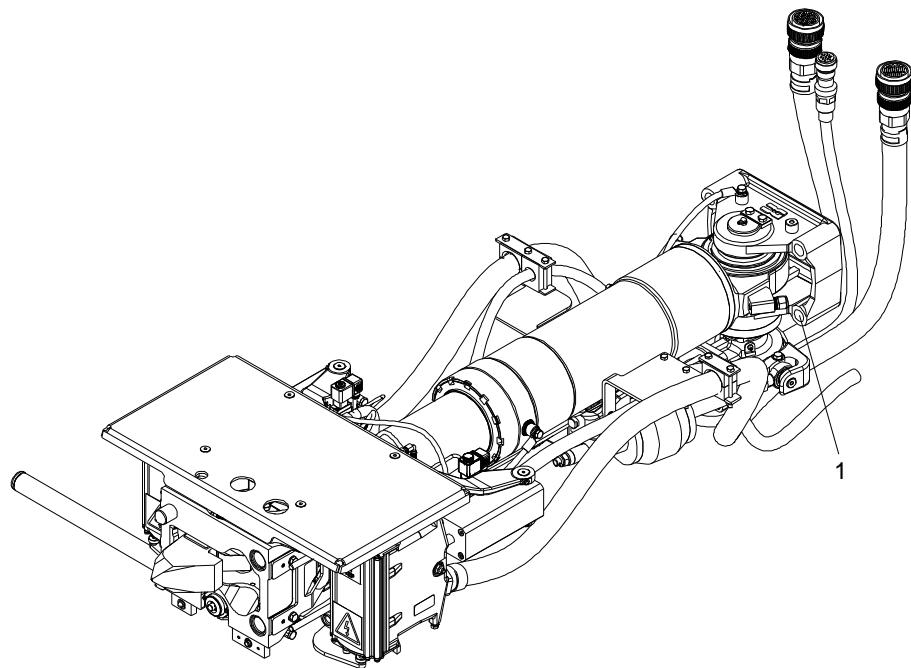

Figure 5-8: Inspect Mounting Bolts
1. Inspect coupler mounting bolts (1), check for damages and that the red torque seal is unbroken. Broken torque seal indicates movement of screw. If torque seal is broken, inspect for damage and replace bolts. See Figure 5-8.